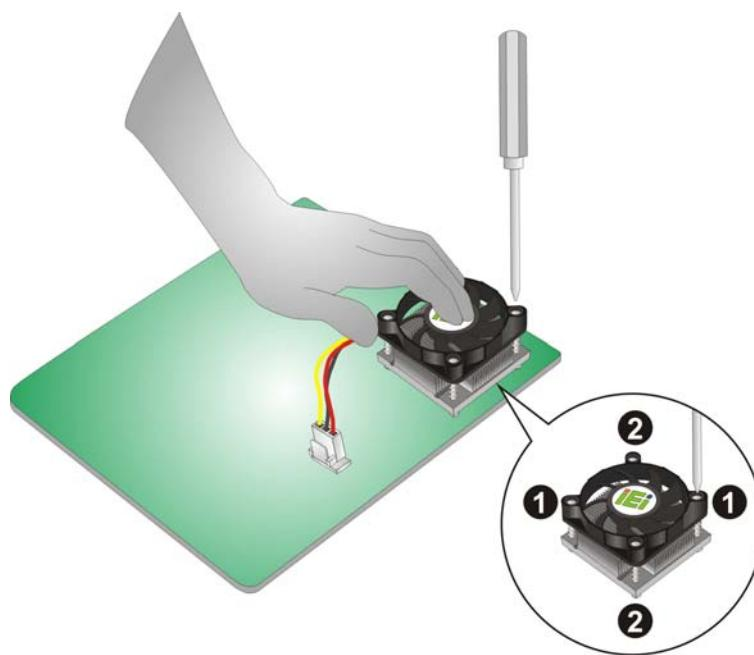

Figure 4-6: Secure the Cooling Kit
Step 4: **Place the cooling kit onto the CPU.** Push down the fan with some pressure to secure the cooling kit with the support bracket. See **Figure 4-6**.
Step 5: **Tighten the screws.** Use a screwdriver to tighten the four screws. In a diagonal pattern, tighten each screw a few turns then move to the next one, until they are all secured. Do not overtighten the screws. See **Figure 4-6**.